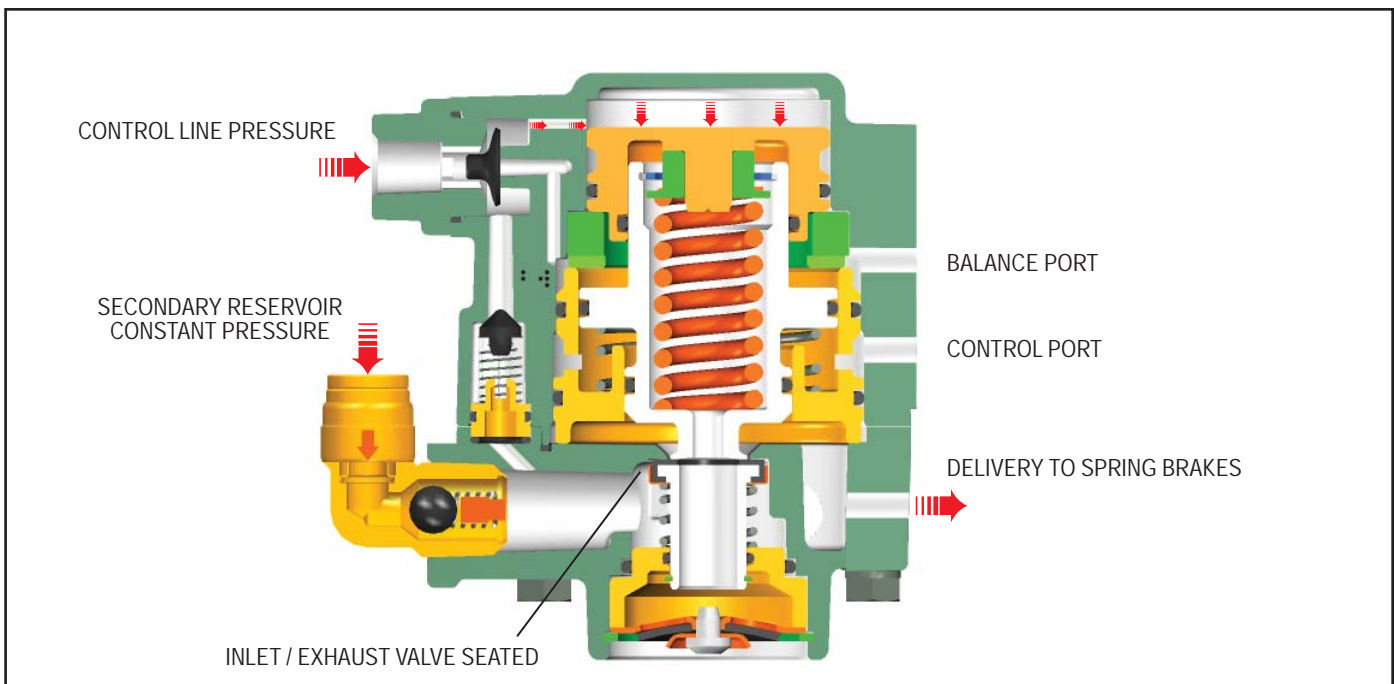

FIGURE 6 - CHARGING GREATER THAN 107 PSI
**CHARGING SPRING BRAKE ACTUATORS ABOVE 107 PSI (FIGURE 6)**